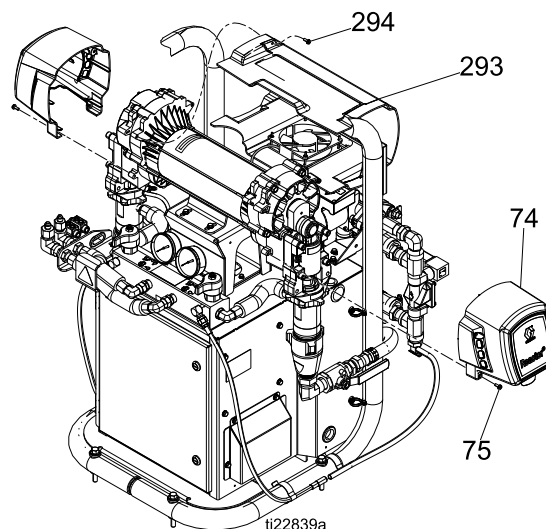

Figure 12
13. Remove screws (294) and motor shield (293), see Fig. 12.